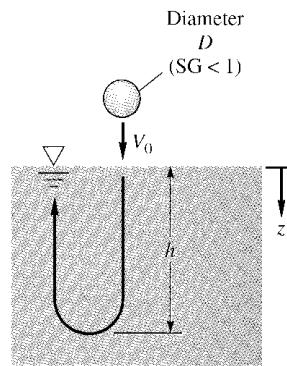

Fig. P7.98
- 7.98** A buoyant ball of specific gravity  $SG < 1$ , dropped into water at inlet velocity  $V_o$ , will penetrate a distance  $h$  and then pop out again, as in Fig. P7.98. (a) Make a dynamic analysis, assuming a constant drag coefficient, and derive an expression for  $h$  as a function of system properties. (b) How far will a 5-cm-diameter ball, with  $SG = 0.5$  and  $C_D = 0.47$ , penetrate if it enters at 10 m/s?